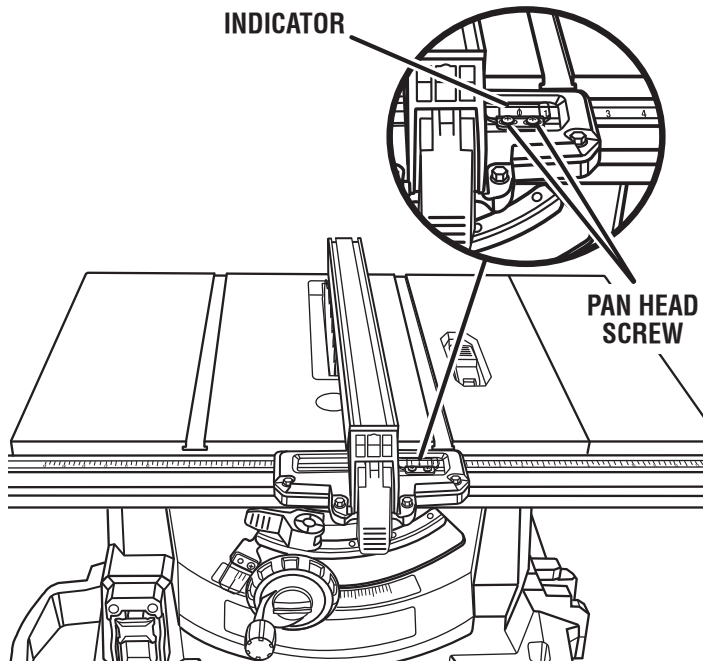

Fig. 40
See Figure 40.
- Mark beside one of the blade teeth at the front of the blade. Place the body of a combination square against the miter gauge groove as shown in figure 40. Measure the distance from the blade tooth to the right miter gauge groove.